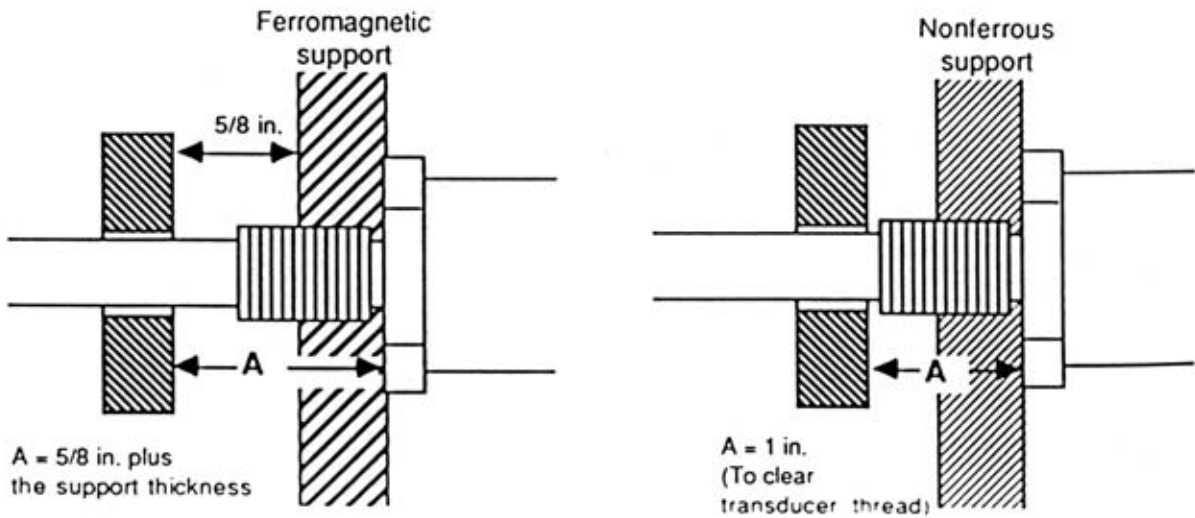

Figure 3.3 Magnetic Material Mounting Specifications
2. Install the permanent magnet over the LDT rod. Mount the permanent magnet to the movable device whose displacement will be measured. To minimize the effect of magnetic materials (i.e. iron, steel, etc) on the magnetic field of the permanent magnet, ensure the minimum spacing requirements are met as shown in Figure 3-3. (Any non-magnetic materials can be in direct contact with the permanent magnet without affecting performance.)
2. Install the permanent magnet over the LDT rod. Mount the permanent magnet to the movable device whose displacement will be measured. To minimize the effect of magnetic materials (i.e. iron, steel, etc) on the magnetic field of the permanent magnet, ensure the minimum spacing requirements are met as shown in Figure 3-3. (Any non-magnetic materials can be in direct contact with the permanent magnet without affecting performance)